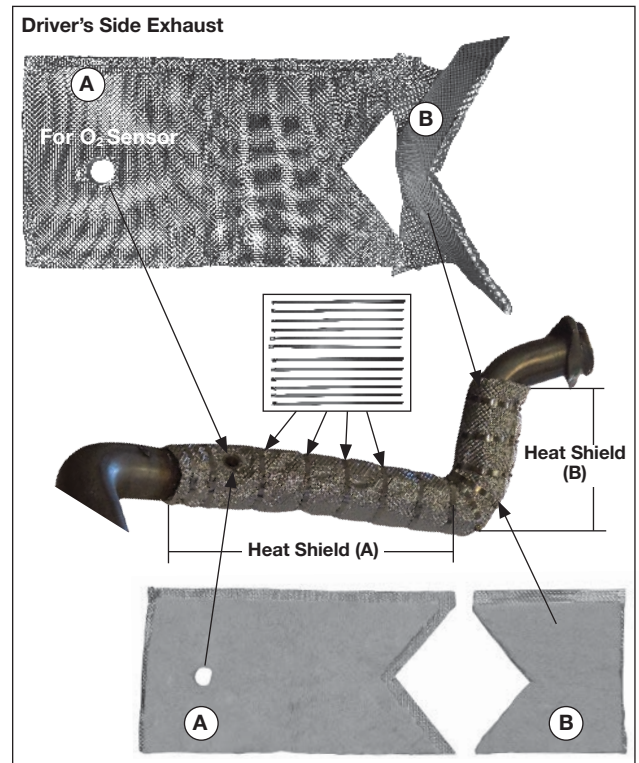

Figure 82
2. Install heat shield (A) with the hole over the O₂ sensor.
5. Install (8) clamps as shown in (Fig. 82).
1. Install piece (B) on the downward bend of the exhaust pipe adjacent to heat shield (A).
2. Lap ears of heat shield (B) over the ears of heat shield (A).
3. Seam of heat shield (B) should be facing forward of the truck.
4. Install (4) clamps as shown in (Fig. 82).